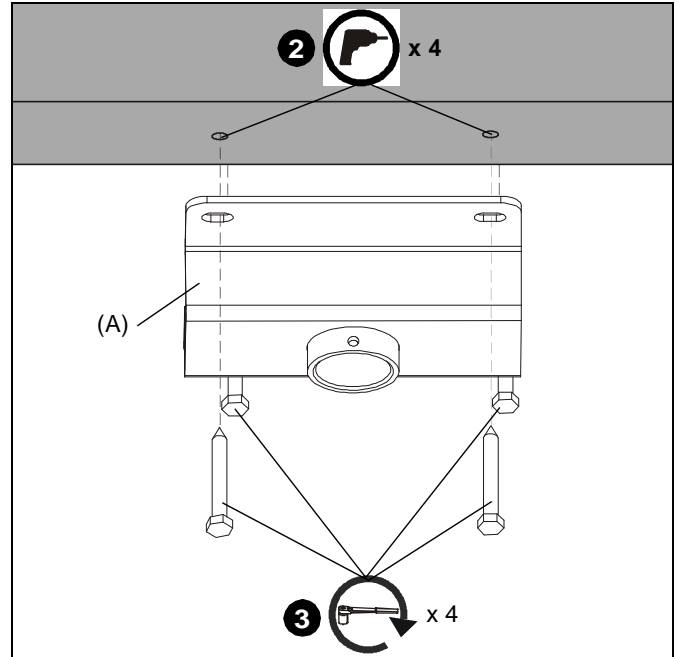
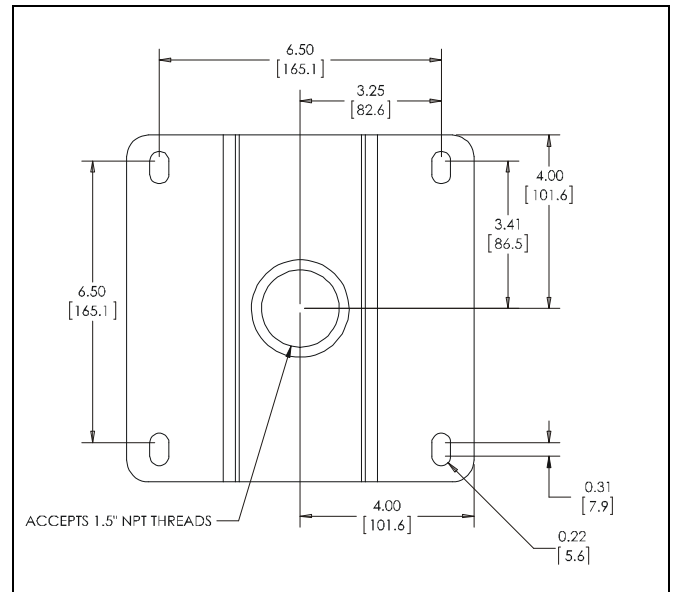

Figure 2
Figure 3
- Drill 1/4" diameter pilot holes into wood joists (See Figure 2). Ensure pilot holes are straight.
- Install and tighten four 3/8" x 2-1/2" (minimum) Grade 2 lag screws (not included) through CMA330 (A), into wood joist (See Figure 2). See Figure 3 for dimensions details.
- Secure the threaded rods to the CMA mount with ASTM A307 or better 3/8" jam nuts (not provided) and washers (one of each on inside and one of each on outside-not provided). See Figure 3 for dimensions details.
1. Use four Ux10 anchors (not provided) to secure CMA mount into solid concrete ceiling. See Figure 3 for dimensions details.